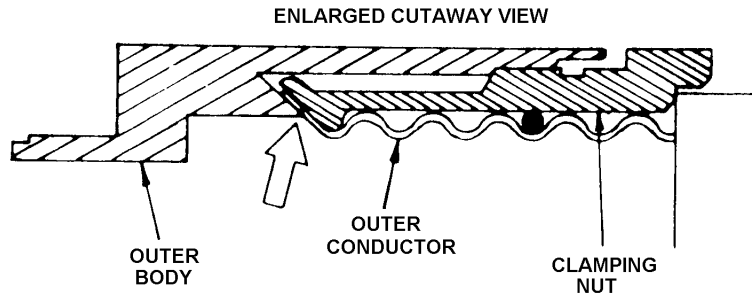

Figure 1.25 - Enlarged Cutaway View
- 8.5 Using the tip of a knife, work around the entire circumference separating all foam completely from the edge of the outer conductor. This is to ensure a good electrical contact between the outer conductor and the outer body of the connector. (See the enlarged cutaway view in Figure 1.25 which (at the arrow) shows the eventual positive grip of the outer conductor between the clamping nut and the outer body of the connector).
- 8.7 Screw the outer body on to the clamping nut and tighten with the 1 1/4in. spanners. Hold the clamping nut and turn the connector outer body; do not turn the clamping nut. Unscrew and remove the outer connector body and inspect the end of the outer conductor for good metal-to-metal contact (Figure 1.25).